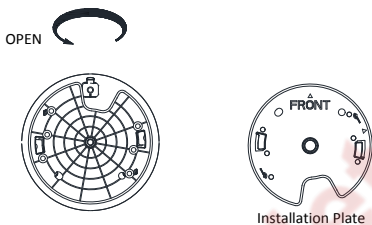

Figure 2-13 Remove the Installation Plate
1. Rotate the installation plate anticlockwise, and remove the installation plate, as shown in Figure 2-13.